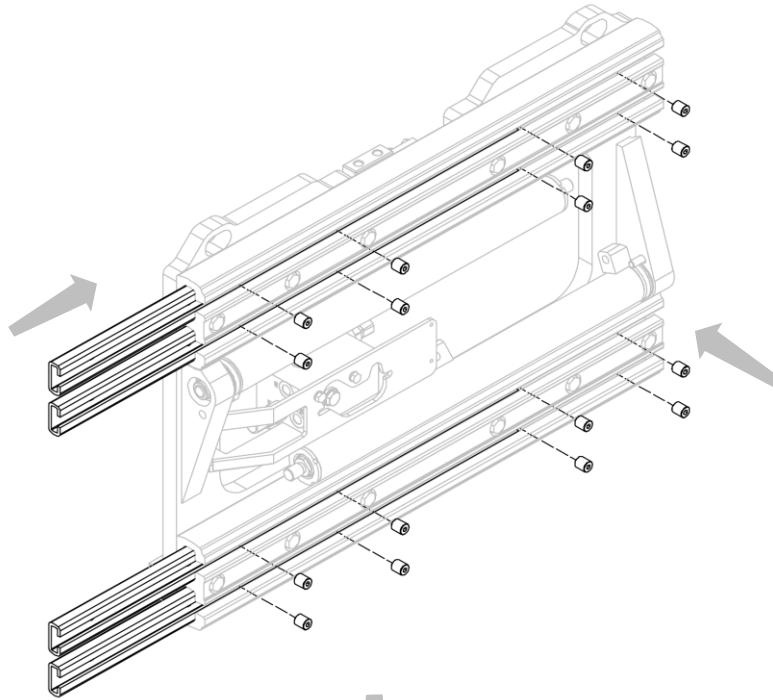
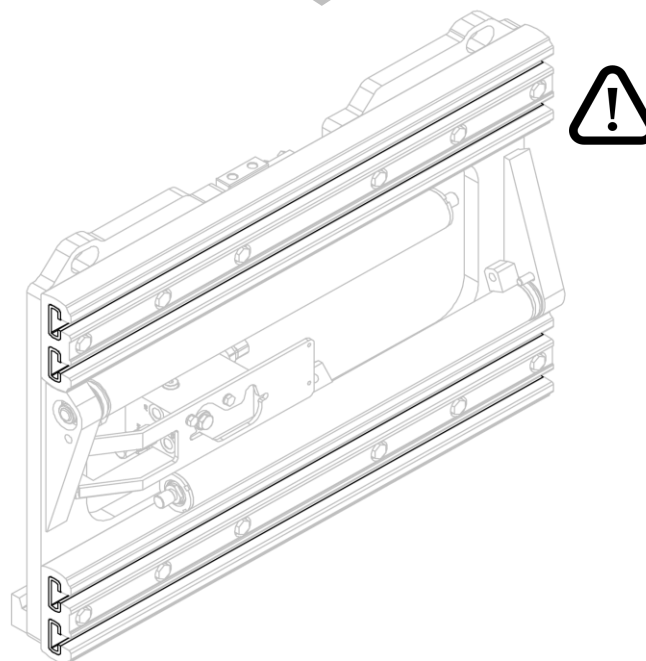

Figure 11
Figure 12
2. Insert the nylon bushes and secure them using the grub screws provided (see *Figure 11* and *Figure 12*).